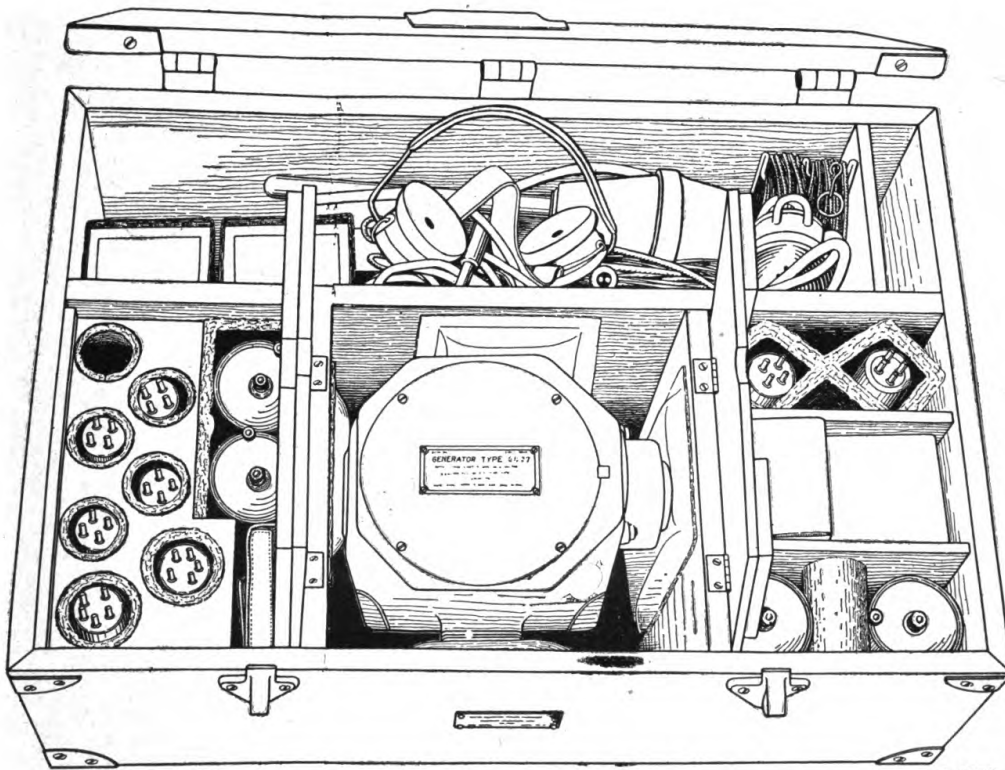

FIGURE 3.—Chest CH-39, packed.
*b. Chest CH-39 (or CH-29).*²—An equipment chest used for carrying (but does not include) the hand generator, antenna guy assembly and reel, counterpoise assembly and reel, microphones, tool equipment, spare tubes, batteries, and headset (fig. 3). Weight packed, 103 pounds.